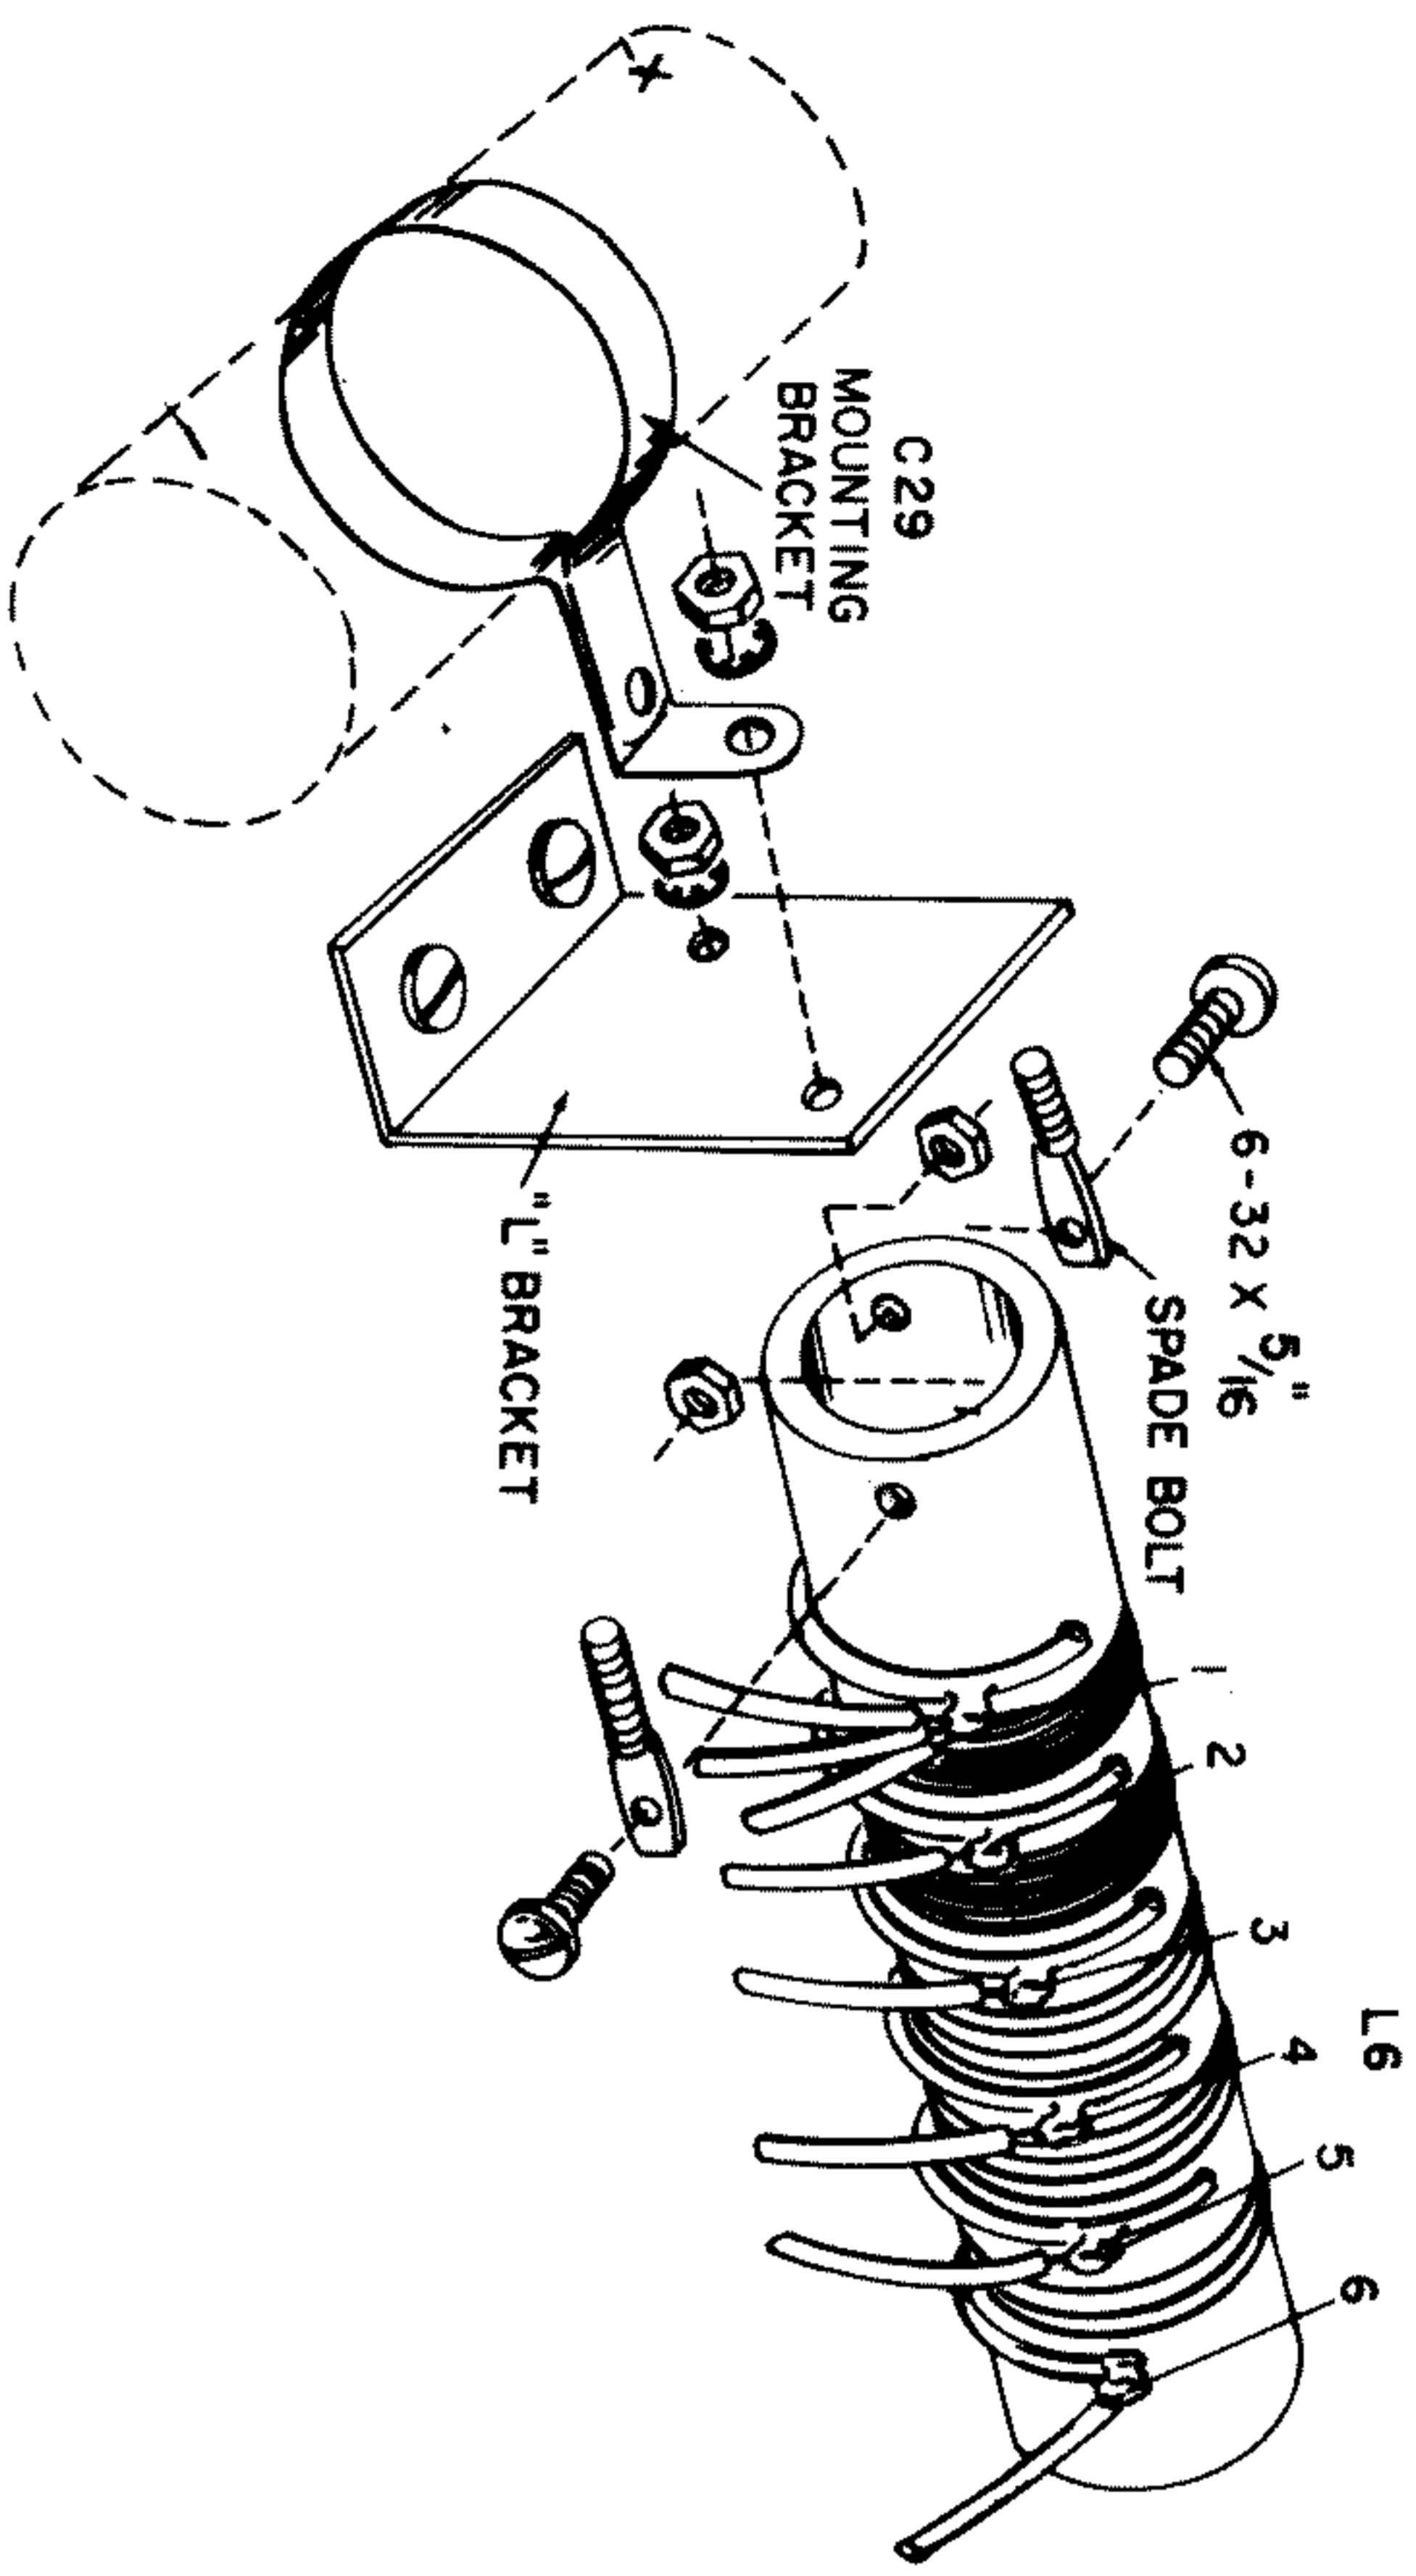

FIGURE 13
### SEE FIGURE 13
- Fasten spade bolts to ceramic form of L6. See Figure 13. Note position of spade bolts. Use 6-32  $\times$   $\frac{5}{16}$  screws and nuts. Insert screw through hole in spade bolts, then through hole in ceramic coil form.
- Mount L6 and C29 (20  $\mu$ f, 600V capacitor) on "L" bracket. See Figure 13. Note position of terminals on L6. They should point to rear of chassis. Insert spade bolts in holes in "L" bracket. Put lockwasher and nut on bolt nearer C16 and tighten nut securely. Note angle of clamp on C29. The red lead should point to C16. Put C29 bracket over other spade bolt. Use lockwasher and nut, and tighten.